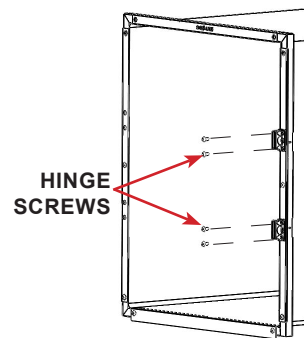

FIGURE 3.8- Hinge Assembly Installation
**STEP 7:** Install the hinge assemblies to the cage frame, tighten screws to secure the hinges to the frame. See FIGURE 3.8